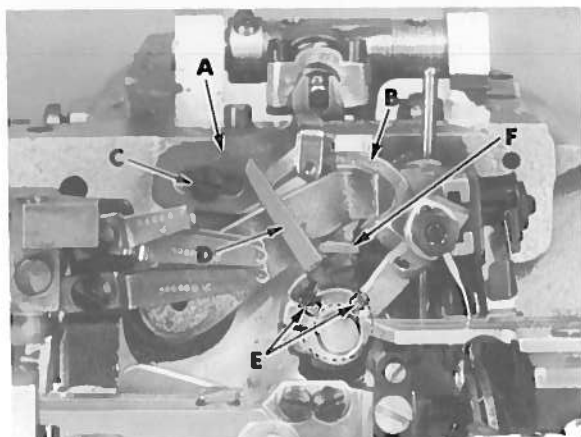

Fig. 20
Needle thread is controlled by needle thread eyelet (A, Fig. 20) and needle thread cam pull-off (B). Needle thread eyelet is set so the securing screw is centered in the screw slot, front to back. Raise or lower the eyelet to have needle thread barely touch needle thread cam pull-off when needle carrier is in its lowest position.
Clearance between looper thread pull-off (D, Fig. 20) and needle thread cam pull-off (B) should be only enough to ensure proper take-up of looper thread as shown in Fig. 20. Loosen screws (E) and rotate looper thread pull-off lever (F) front to back on needle driving shaft until proper clearance is obtained. Before tightening screws (E) be sure to take up all end play in needle drive shaft.